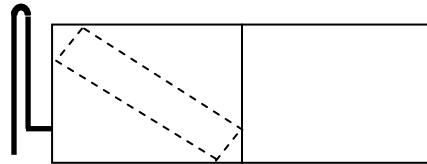

Fig 1. Evaporator unit with inverted vapor loop
2. For a system installation where the evaporator is above the condenser, an inverted vapor line trap should be installed on the suction line just before the inlet to the evaporator (see Fig 1). The top of the inverted loop must be slightly above the top of the evaporator coil and can be created simply by brazing two 90° long radius elbows together, if a bending tool is unavailable. Properly support and secure the inverted loop to the nearest point on the indoor unit or adjacent structure.